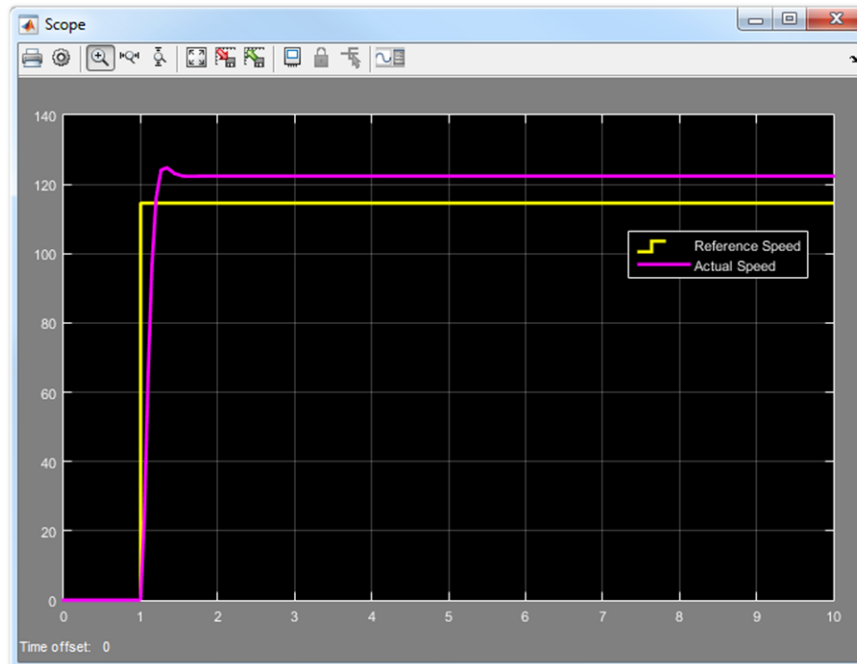

Figure 42 - Reference speed v/s measured speed for the open Loop motor
2. Simulate the model and observe that the actual (measured) motor speed (purple) that drives the EV3 wheels is different from the desired motor speed (yellow) as seen in the Scope on Figure 42.